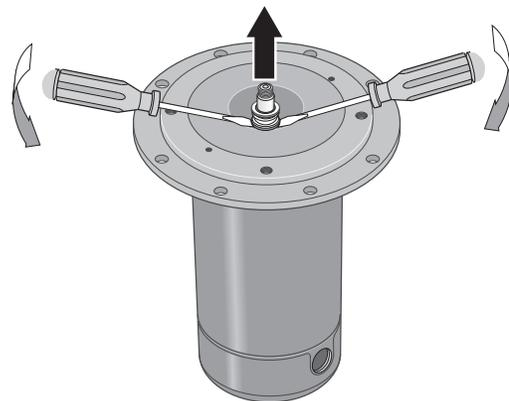

Figure 17 – Remove Seal plate
- Remove rotating half of seal by placing two screwdrivers under seal ring and **carefully** prying up (Figure 17).